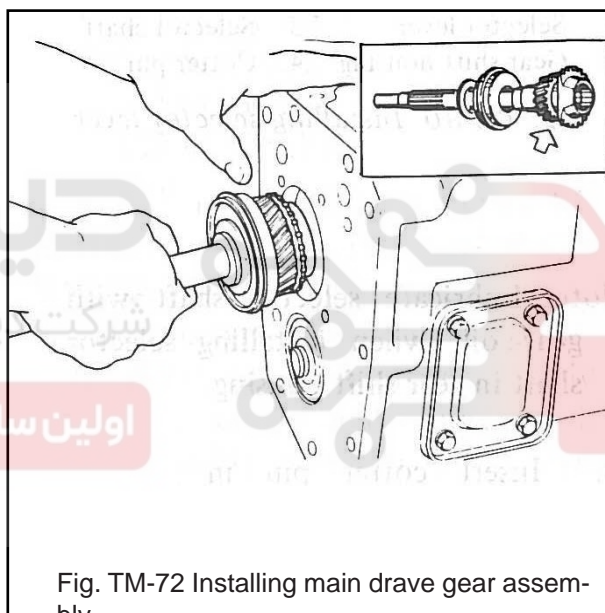

Fig. TM-72 Installing main drive gear assembly
5. Install main drive gear assembly from the front side side of transmission case, placing the cut-out portion on main drive gear down ward and holding main drive gear by hand. See figure TM-72.